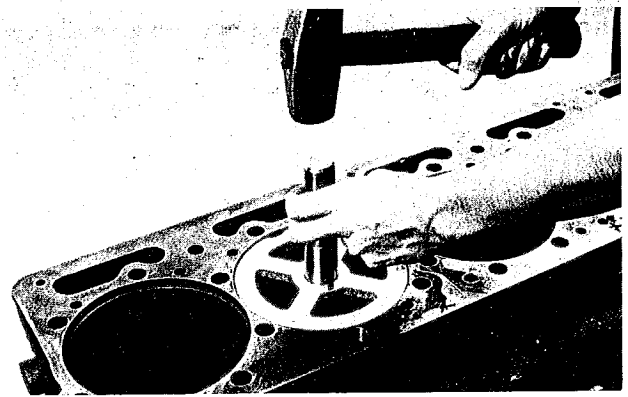

Fig. 9 Driving Bushing into Place
5. Tap gently on driver handle to position bushing in bore. See Fig. 9.